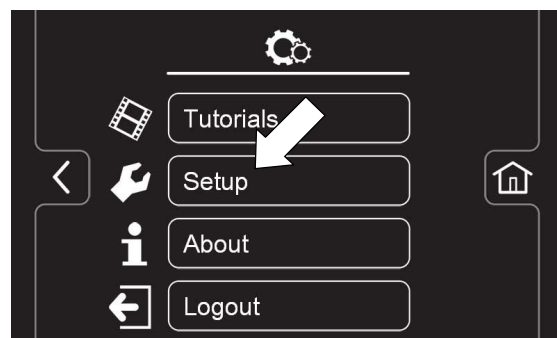

FIG. 121
3.  Press the Setup button to access the Setup screen (Figure 121).